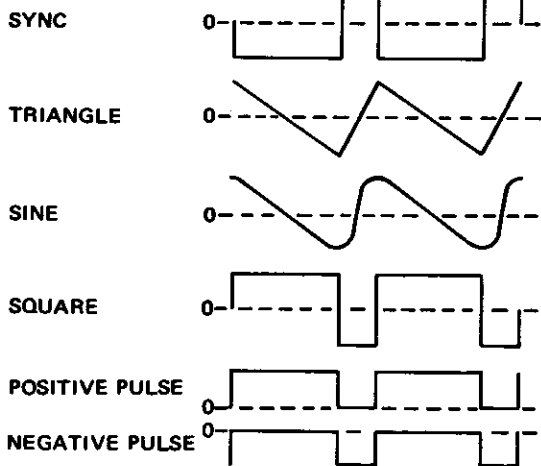

Figure 2-3 - Waveform Phasing and Symmetry Control
18. **Sync Out** — This rear panel output provides a square or rectangular output at the same frequency of the main generator. The output amplitude is approximately 2 V p-p into 50Ω. The phase relationship between the sync output and the waveforms from the 50Ω output is as shown in Figure 2-3.
9. Set SYMMETRY switch/control for desired symmetry or dissymmetry. The symmetry control can be used to develop ramp waveforms with variable rise fall ratios and pulse trains with variable duty cycle. By using the sine wave with dissymmetry, controllable sine distortion can be developed. Figure 2-3 shows the effect of this control on output waveforms.